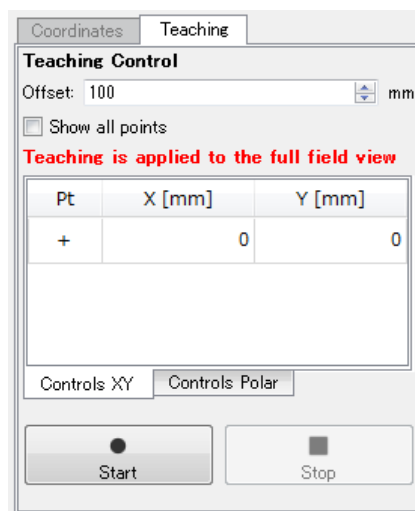

Figure 7-45 Teaching setting
- Click the “Start” button (Figure 7-45) to start recording the background data. Recording will continue until the stop button is clicked.